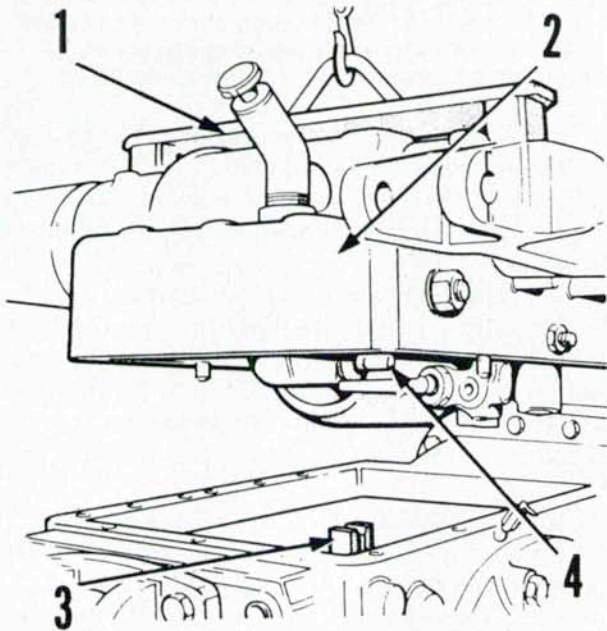

Fig. 327—Hydraulic lift cover removal and installation. Be sure that roller (4) engages draft sensing yoke (3) when reinstalling.
Remove cap screws retaining lift cover to rear axle center housing. Attach a suitable lifting fixture (such as Ford tool No. 1302) to lift cover and use a hoist to raise and remove lift cover assembly as shown in Fig. 327.
When reinstalling lift cover, be sure that the roller (4—Fig. 327) on draft and position control guide enters the draft sensing yoke (3). Tighten cover retaining cap screws to a torque of 155 ft.-lbs. (210 N·m). Complete installation by reversing the removal procedure.